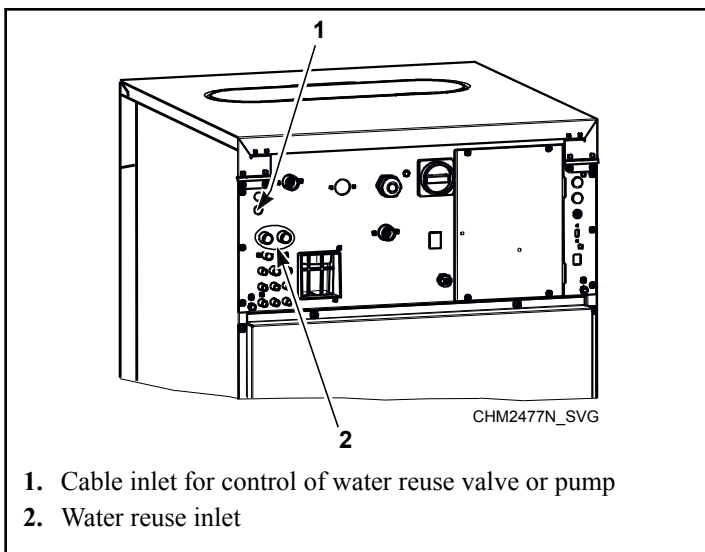

Figure 18
1. Drill out the protective screens of the water reuse inlet using a drill bit of .59 in. [15 mm] diameter. Refer to *Figure 18*.
3. Fit a cable bushing into the opening, and pull the cable through the bushing. Refer to *Figure 18*.